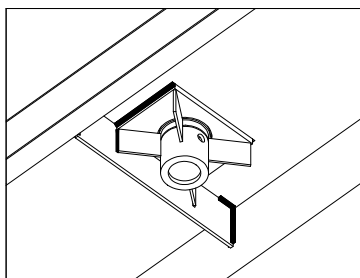

Figure 4
3. **Install the socket braces.** Use 1/4" T x 4" W x 16" L mild steel strap (or equivalent) to brace from the truck bed C4 x 5.4" "C" channel cross members, in front of the socket assembly to the truck bed cross member rear of the socket assembly (1/4" x 4" x 16" strap not included). The 4" strap will need to have a 2-1/2" round relief hole cut on the driver side for the handle to travel through. When welding the strap, weld the fins on the socket to the strap, stitch weld the strap to the floor of the bed, and weld to the truck bed cross members, see Figures 4 & 5. Consult the B&W engineering department for an installation that deviates from our recommended installation practices or any other installation questions.